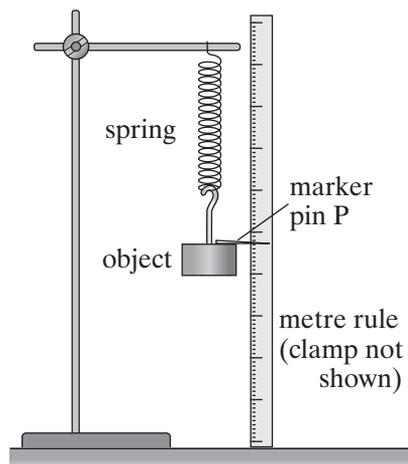

Figure 1
- 1 In an investigation, a small object was suspended from the lower end of a vertical steel spring which was fixed at its upper end, as shown in **Figure 1**.